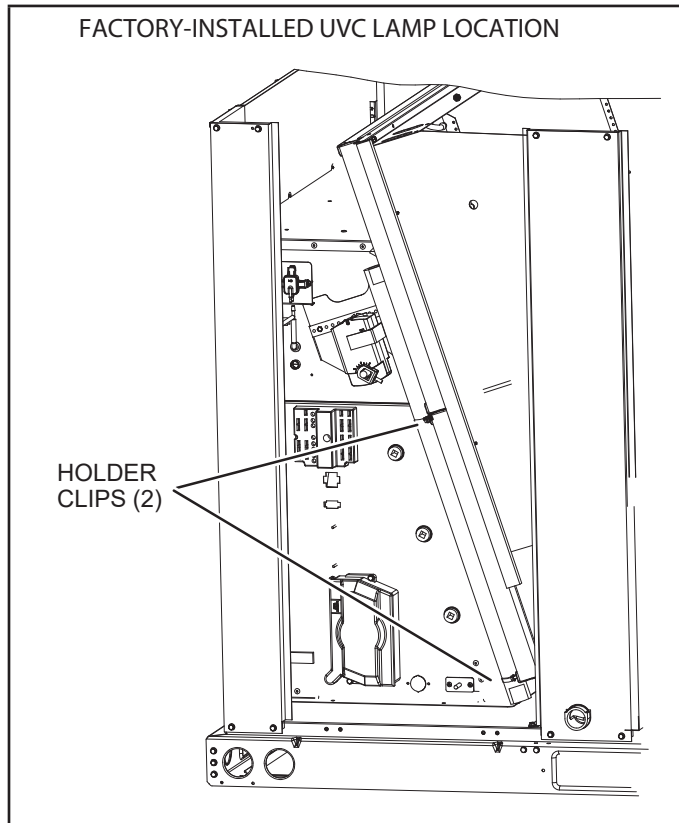

FIGURE 42
- 1 - Cut wire ties and remove the UVC lamp attached to the filter rack. See FIGURE 42.